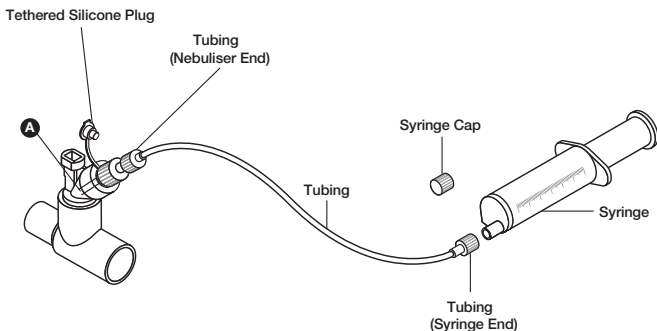

Figure 17. Continuous Nebulization Tube Set
7. Insert the syringe filled with medication into the syringe infusion pump (pump not shown in Figure 17) and set the appropriate flow rate (refer to pump manual or manufacturer for guidance).